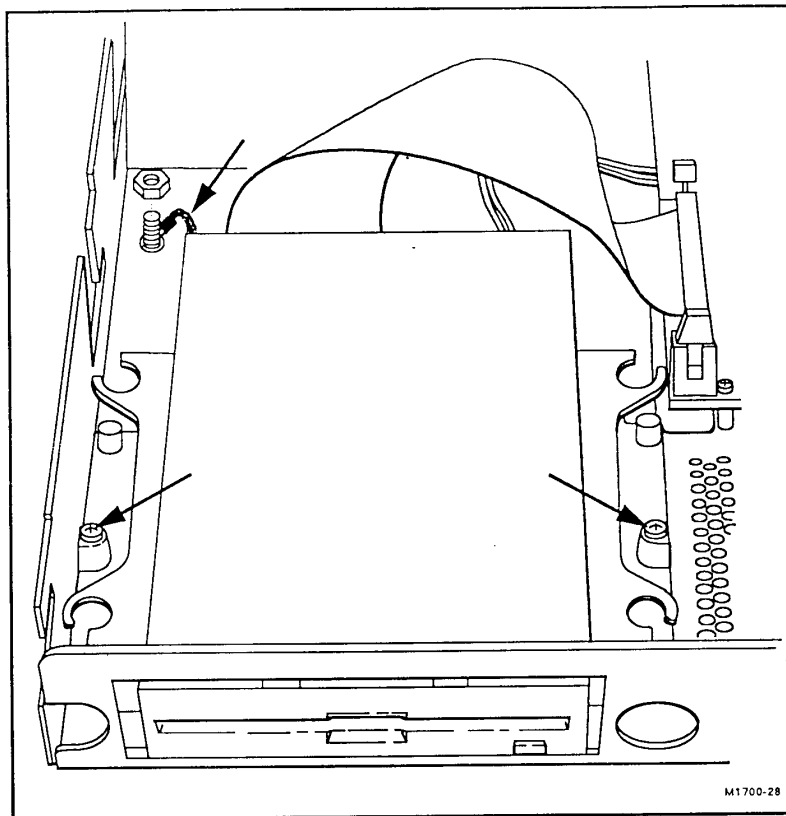

Figure 7-21. Disk Drive Mounting Screws.
3. On units having a serial number prefix prior to 3208A, remove the 7/32-inch nut that attaches the ground strap to the chassis (see Figure 7-21).